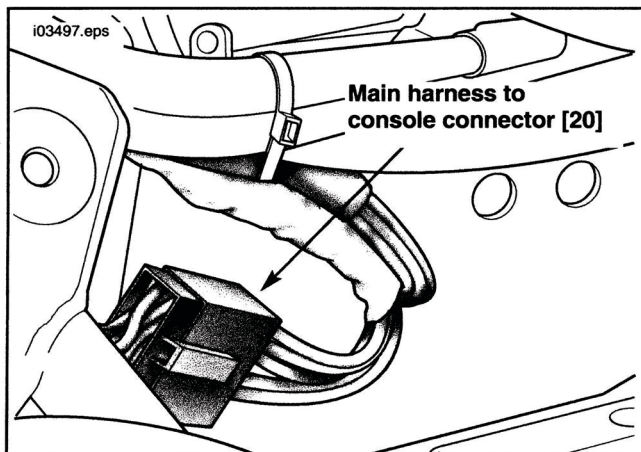

Figure 3. Replacing Connector [20] FLHR/I 1997-98
2. See Figure 3. Remove left side cover and locate connector [20].